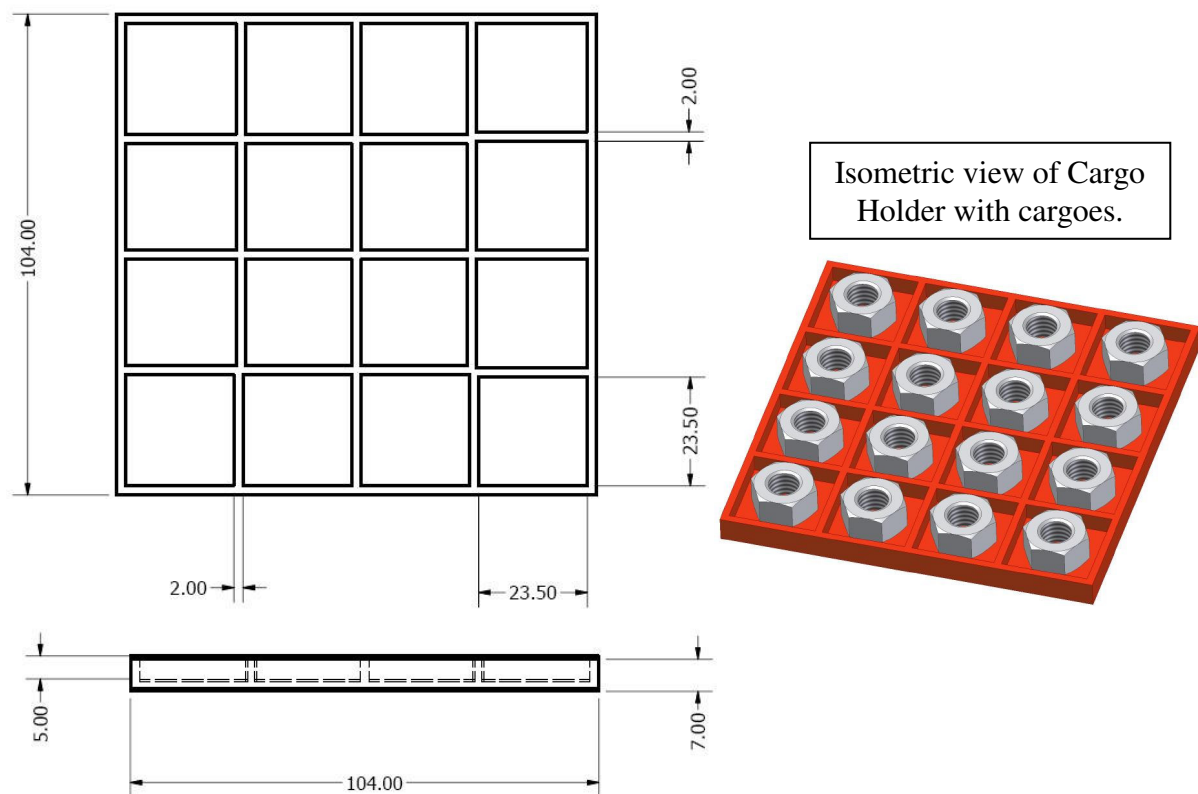

Figure 3 : Cargo Holder Dimensions (in mm)
- 3.5 The cargo holder will be a square of 100mm sides with the sixteen objects arranged in a grid. The cargo holder will be made from a non-magnetic material. See Figure 3.